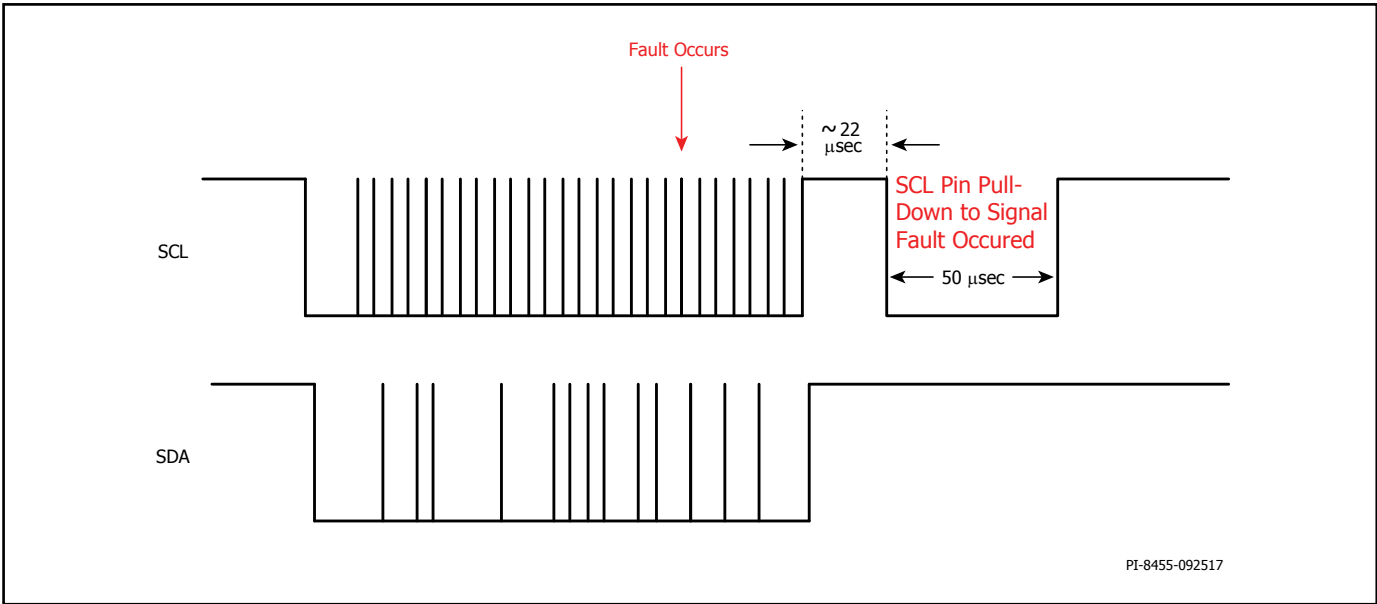

Figure 20. Interrupt Mask During Active I²C Transaction.
- When the SCL pin is busy (active I²C transaction) (see Figure 20), the fault interrupt will wait for the I²C transaction to be completed, wait ~22 μsec and then pull down the SCL line for 50 μsec (minimum) then releases it back to HI State.